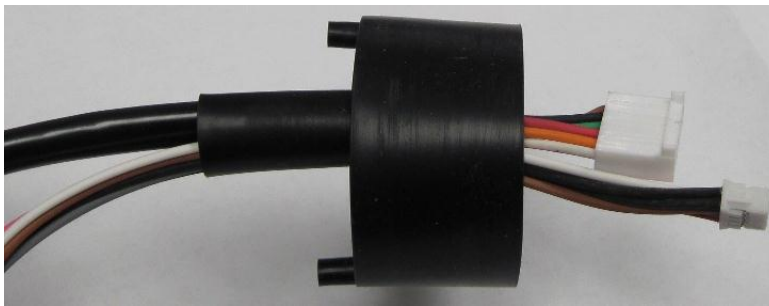

Figure 1. Insert Harnesses
1. Insert the gauge harness/harnesses into the tubular snout of the boot. See Figure 1 below. The gauge boot is made from silicone rubber and will stretch some. However, it is recommended that the unterminated end of the harness or the smallest connector be passed through the snout. Note: Use caution during assembly as sharp objects can pierce the boot.